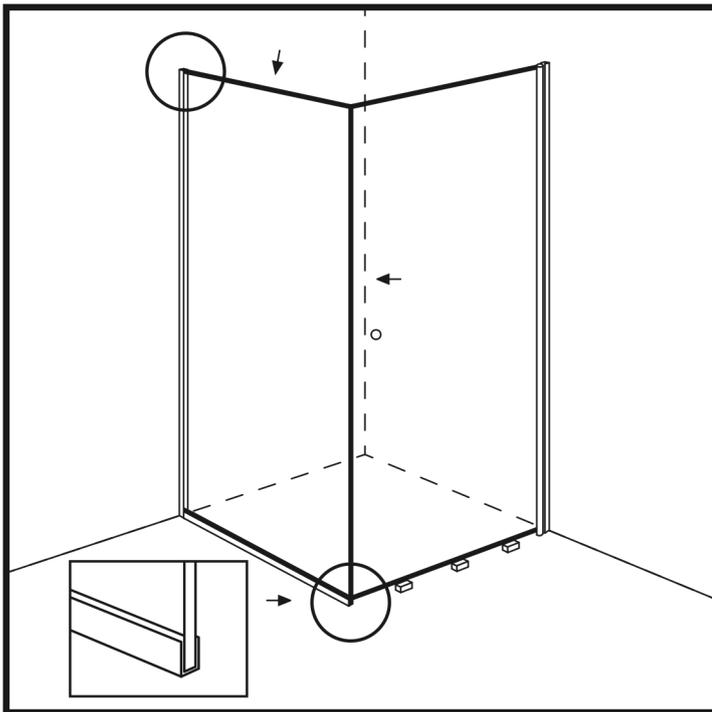

Figure 14
29. Place the shower glass between the U-profiles and press it both towards the wall and downwards so that the silicone adheres to the glass. (Figure 14)